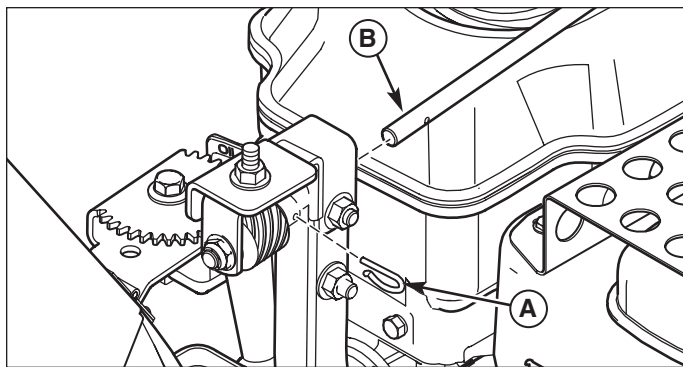

Figure 14. Rotator Shaft Removal
9. Remove hair pin (A, Figure 14) and slide rod (B) backward about 3 inches (until shaft separates from the worm drive).
17. Slide spout rotator rod (B, Figure 14) into worm gear, and secure with hair pin (A).